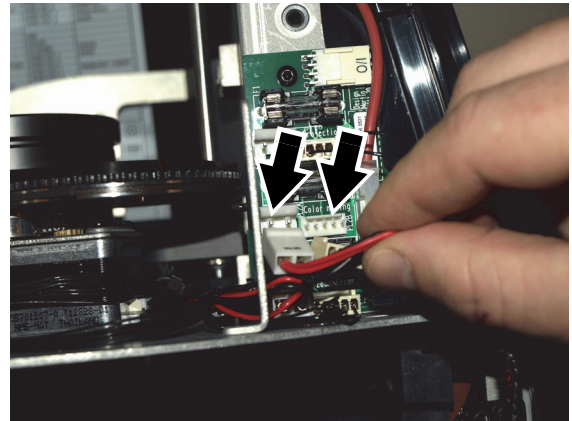

Figure 15: Disconnecting color mixing module
3. See Figure 15. Unplug the two color mixing module connectors (arrowed) from **PL2A** and **PL2B Color mixing** on the PCB on the right-hand side of the head and lift up the wireset so that it hangs loose.